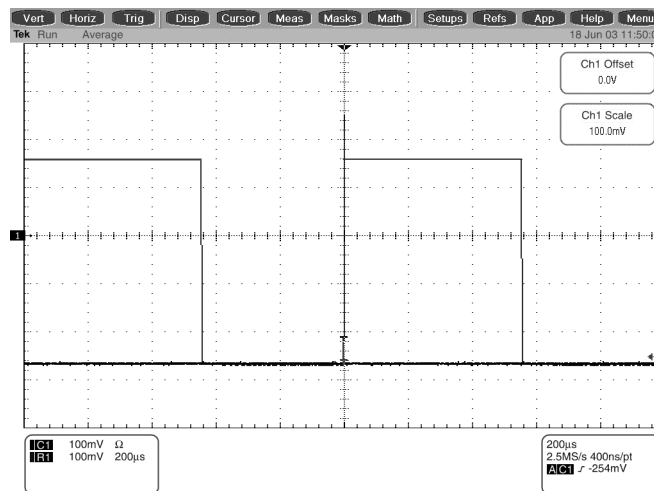

Figure 4-26: Measurement of probe compensator amplitude
- f. Touch **Close** to remove the menus from the display. See Figure 4-26.